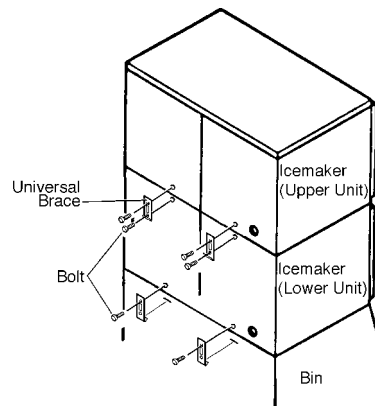

Fig. 4
5. STACKING TWO ICEMAKERS - See Fig. 4 & 5